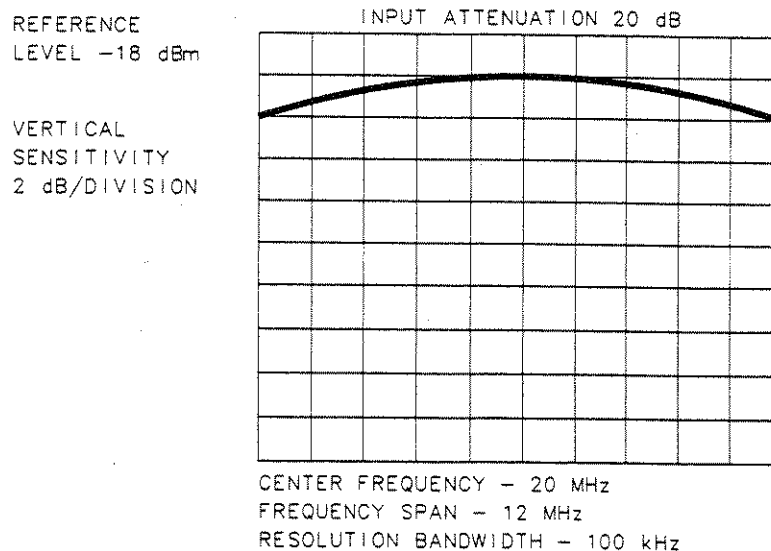

Figure 5-3. 300 MHz Passband
- Check that the passband displayed on the spectrum analyzer is centered about 19.5 MHz. The passband should be greater than 10 MHz wide at the 3-dB points and flat to within one half dB within 2 MHz of the center frequency (see Figure 5-3). If so, no further adjustment is necessary.